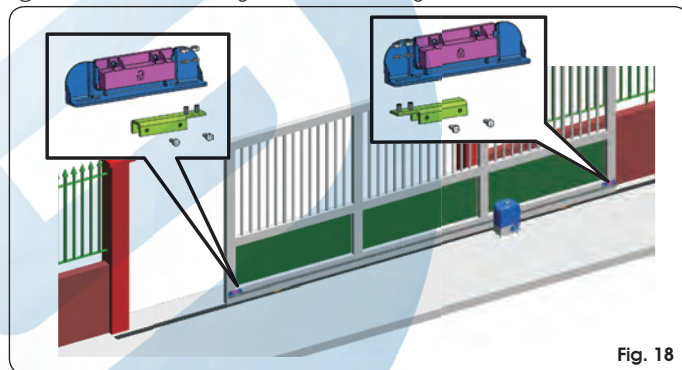

Fig. 18
The operator has a magnetic limit switch, which commands gate motion to stop when the magnet, which is secured to the upper part of the rack, activates the sensor. The magnets supplied with the operator are specifically polarised and activate only one of the sensor's contacts: the closing or opening contact. The magnet activating the open gate contact bears an open padlock symbol, and, vice versa, the magnet activating the closed gate contact bears the closed padlock symbol (see Fig. 18).
- ① Assemble the two magnets as shown in Fig. 18.